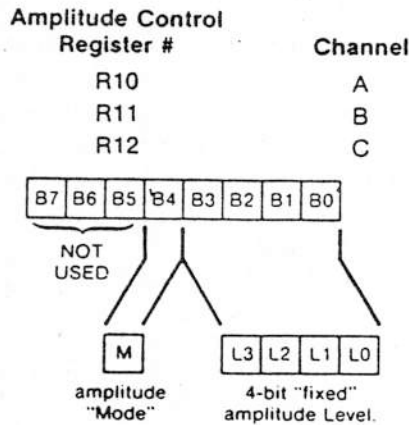

Figure 3-7. D/A CONVERTED SIGNAL GENERATION
3.3.7.4 Amplitude Control (Register R10, R11, R12). -- The amplitudes of the signals generated by each of the three D/A Converters (one each for Channels A, B, and C) is determined by the contents of the lower 5 bits (B4--B0) of registers R10, R11, and R12 as illustrated by Figure 3-7.